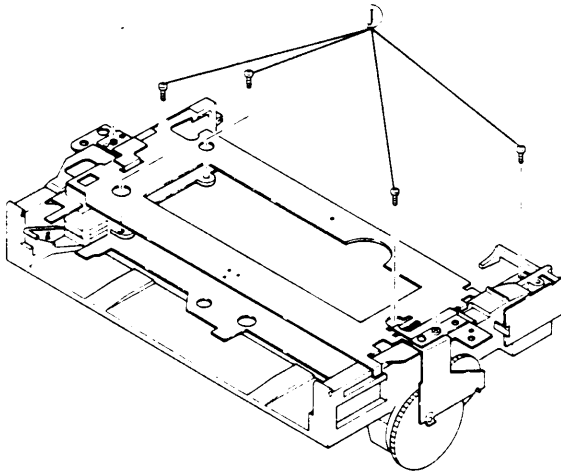

Fig. 1-1-5
2. Refer to Figs. 1-1-5 and 1-1-6.